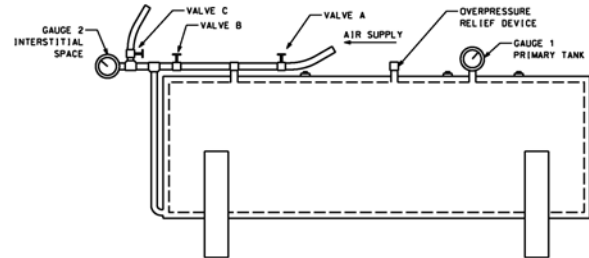

FIGURE 2
3.2.2.2 Install test piping as shown in Figure 2. Temporarily plug, cap or seal off remaining tank openings to hold pressure.
- 3.2.2.4 Connect the regulated test air supply line to test piping as shown in Figure 2.